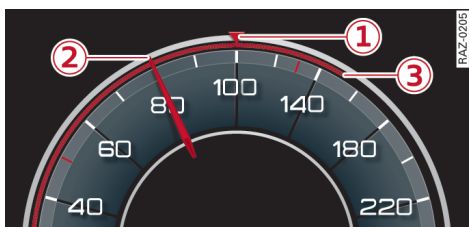
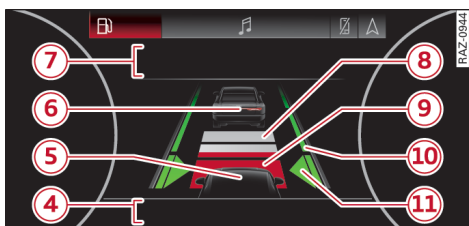

Fig. 105 Instrument cluster: Display on speedometer
Fig. 106 Instrument cluster: Display showing driver assist system
The driving situation and the settings are displayed in the instrument cluster ⇒ *Fig. 105*. More detailed system information is shown on the **Driver assist** ⇒ *Fig. 106* display. The displays depend on the country and the vehicle's equipment.
- Press the **SET** button ②. The set speed will be indicated by a marking on the speedometer ① ⇒ *page 140, Fig. 105* and displayed in the instrument cluster ⇒ .
You can set any speed between 20 km/h and the maximum of the available speed range ③¹⁾ ⇒ *page 140, Fig. 105*.
- ▶ To increase or reduce the set speed continuously, hold the lever towards / until the marking on the speedometer  ⇒ page 140, Fig. 105 reaches the desired cruising speed.
⇒ *page 140, Fig. 106* and indicator lamps